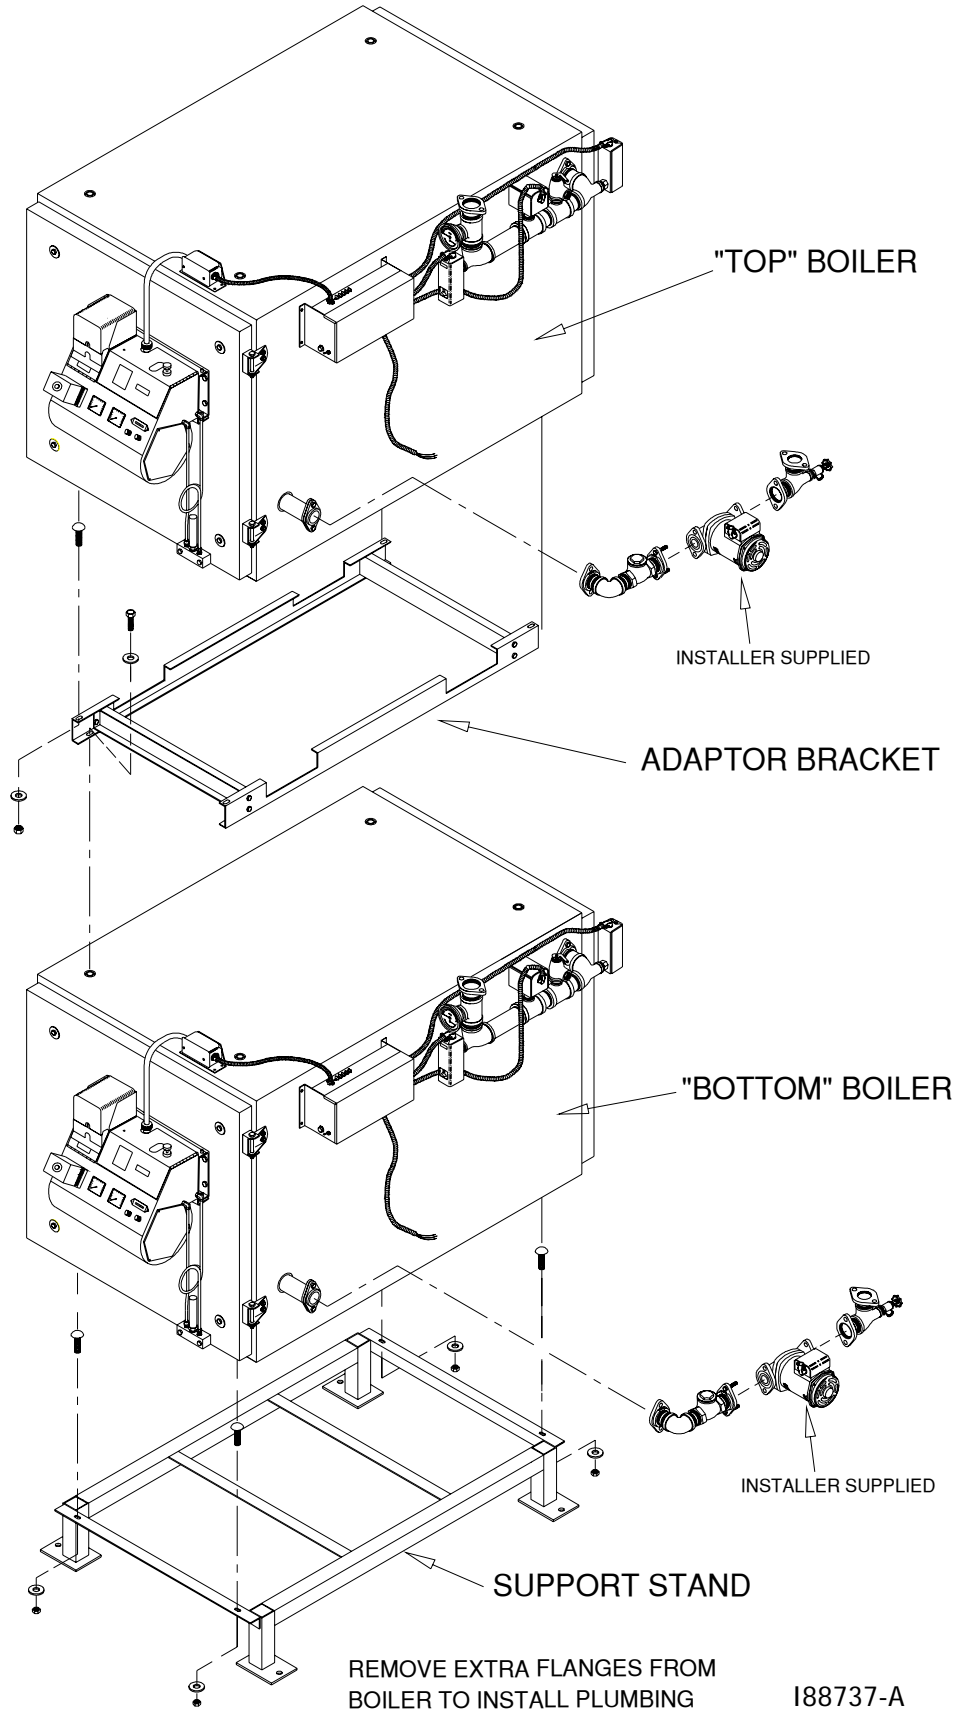

Figure 3D - Dual-Stacked Boiler Assembly Detail
7. Refer to Figures 3D and 3E. Assemble the adaptor bracket using 1" x 3/8" carriage bolts.